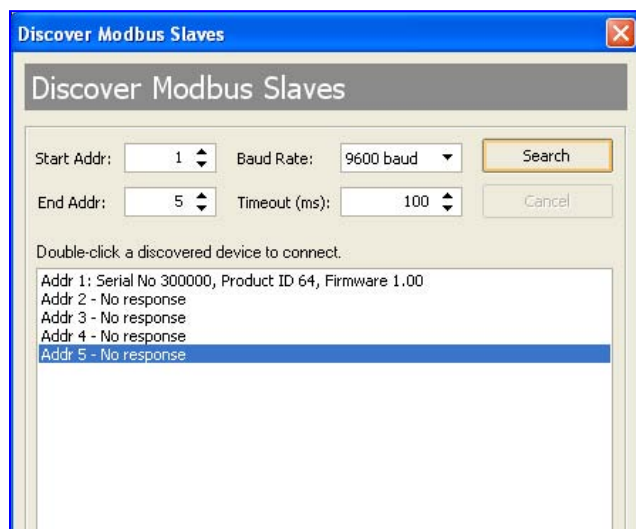

Figure 4.8—Automatic detection of all connected devices
3. Enter a range of addresses you want to search (*Figure 4.8*).